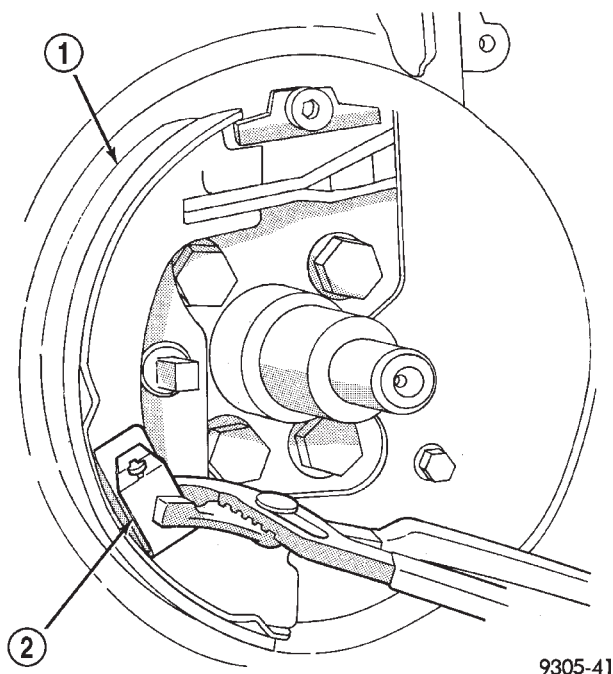

Fig. 154 Front Park Brake Shoe Hold Down Clip
(11) Remove the hold-down clip from the front park brake shoe (Fig. 154). Then remove front park brake shoe.
- (1) Install front brake shoe and hold down clip (Fig. 154).